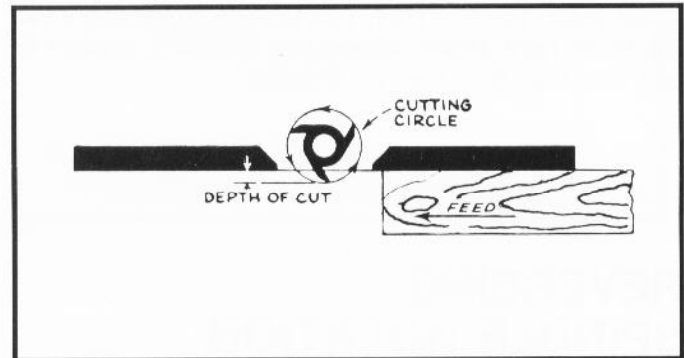

Fig. 27
1. For average work, where a portion of the original edge of the work is not touched by the cutter, both the front and rear fences are in a straight line, as shown in Fig. 27.